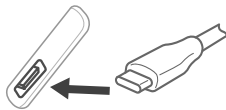

Figure 4.1
2. Plug the USB charging cable into a DC 5V adapter and plug into an outlet. You can also plug the cable into a powered USB outlet. *[Figure 4.1]*